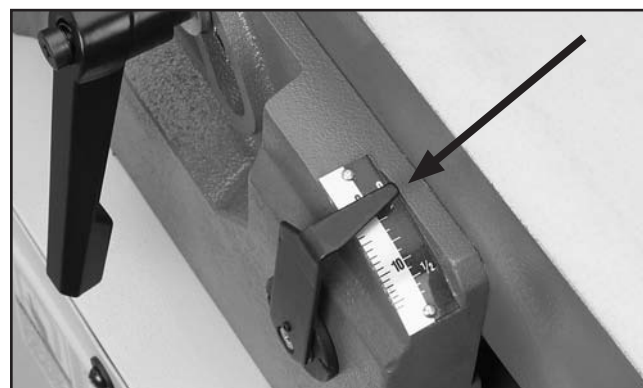

Figure 72. Depth scale adjusted to "0" position.
4. Using a screwdriver, adjust the scale pointer to zero (see **Figure 72**), then reset the infeed table positive stops.